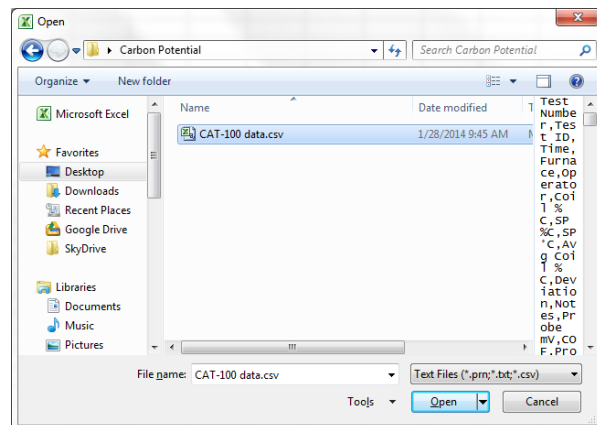

Figure 57 - Opening CSV file in Microsoft Excel
2. Open Microsoft Excel (or a similar spreadsheet program). Open the **File -> Open** dialog box (Figure 57). Set the File Type to include .csv files. Select the CSV file you saved and click **Open**.